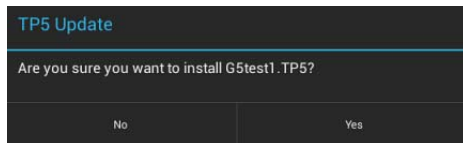

FIG. 115 TP5 Update prompt
5. The panel will prompt you to verify this action (FIG. 115):